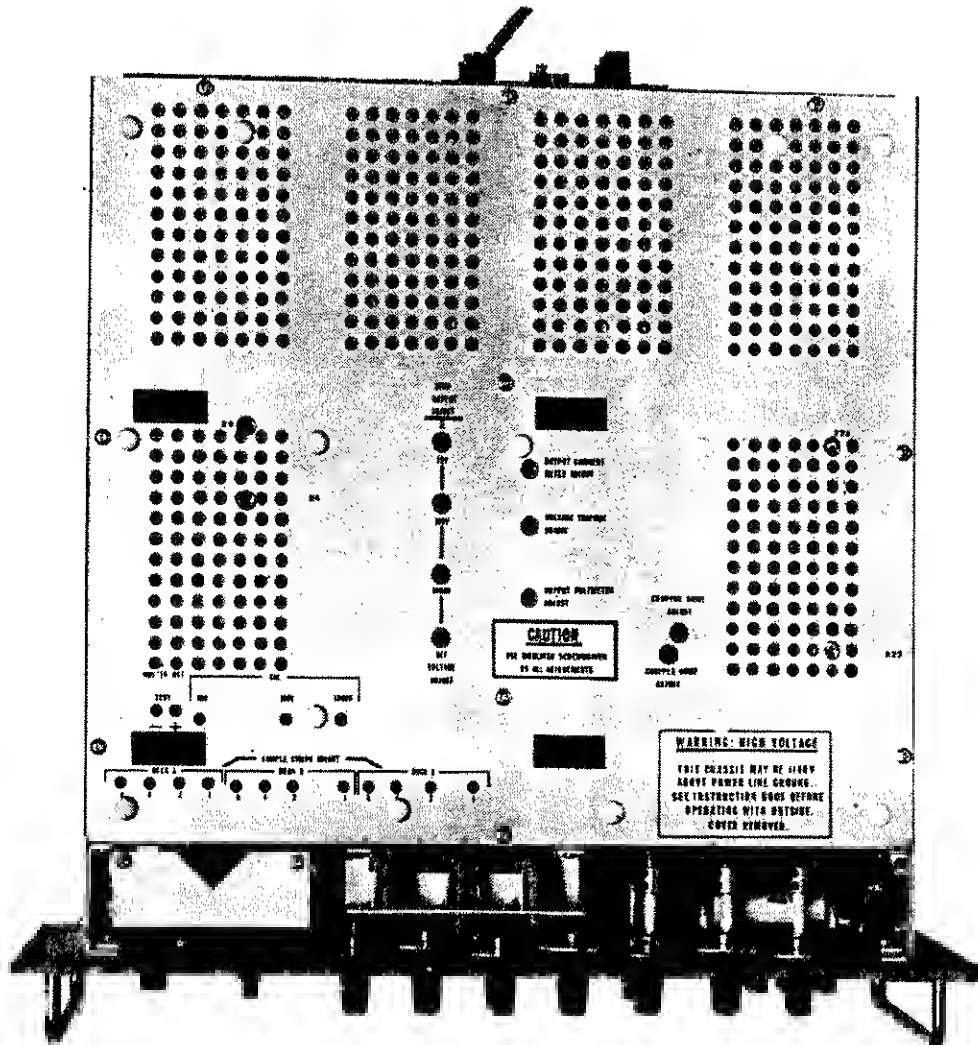

Figure 4-2. OUTSIDE COVER REMOVED
- d. Set instrument vertically on handles and withdraw outside cover while guiding ac power cord through hole in rear of outside cover. See Figure 4-2.